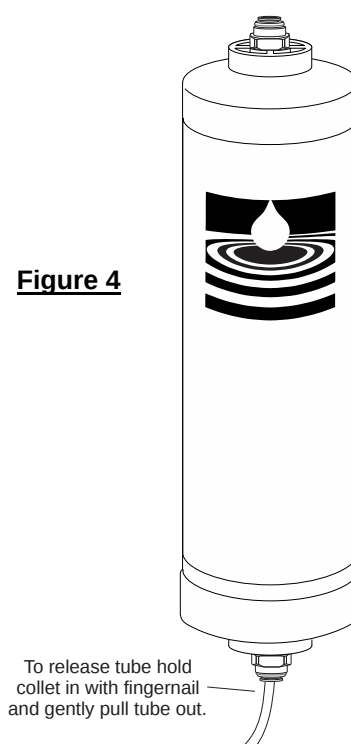

Figure 4
- Insert the **Quick-Fit** connectors into the filter housing (Figure 4). Use thread tape to prevent leaks, but **DO NOT OVERTIGHTEN**.